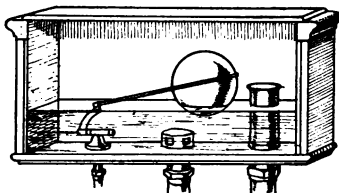

FIG. 32. Expansion tank.
**67. Expansion Tank.** The expansion tank (A, Fig. 31, and Fig. 32), placed somewhat higher than the top of the highest radiator, is fitted with an overflow, for water expands as it is heated. If the expansion tank is closed so that the overflow pipe will not open except under pressure after the air in the tank has become compressed by the expansion of the water, a higher temper-